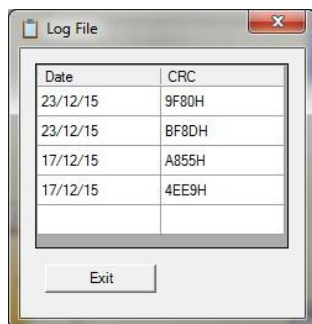

Figure 56: EUCHNER Safety Designer, log file
- › The creation date and the CRC (four-digit hexadecimal code) for a project saved in the MSC-CB/ MSC-CB-S are contained in the configuration file (project) (Figure 56).